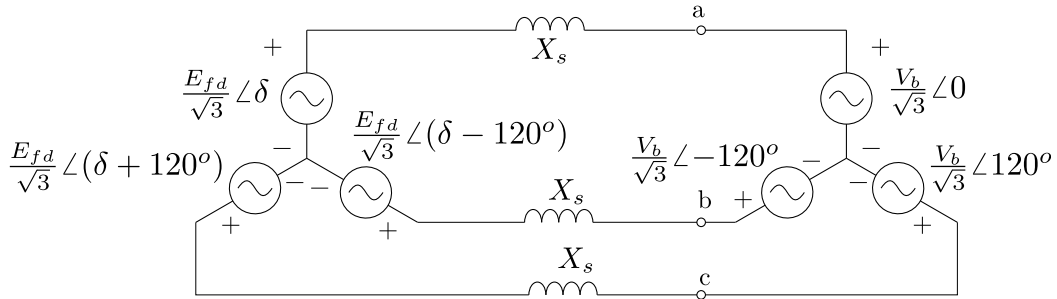

Figure 7: Synchronous generator connected to voltage source
13. A cylindrical rotor (non-salient) synchronous generator is modelled as a voltage source (E_{fd}) behind a reactance X_s . Note that the voltage E_{fd} is directly proportional to the field voltage and the speed. The angle δ is dependent on the position of the rotor relative to the resultant rotating magnetic field seen by the stator windings. The generator is connected to the grid (which is represented by a three-phase voltage source having a magnitude V_b) as shown in Figure 7.